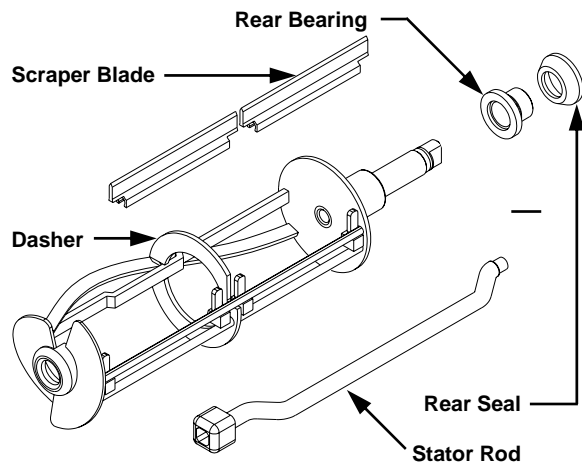
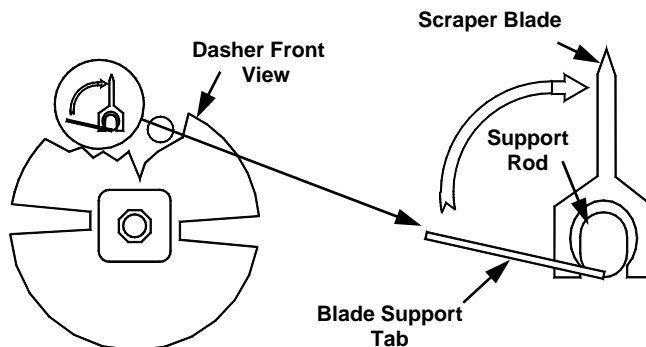

Fig. 18
Fig. 19
9. Remove the dasher assembly (Fig. 18) being careful not to damage the scraper blades, then disassemble in the following manner:
- c. Remove the blades from the dasher (Fig. 18) by first rotating blade upward (Fig. 19) and then unsnapping one end from the support rod.